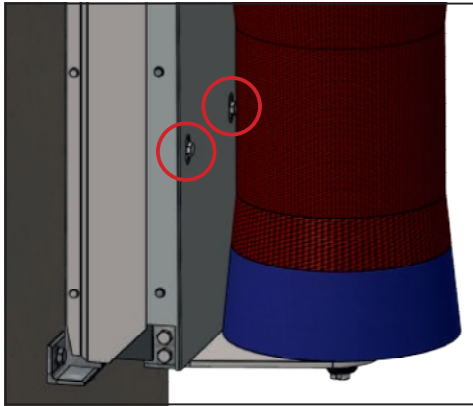

Figure 5: Removal of the transport safety screw
4. Remove the transport safety screws (2 x) and keep them for later use. (Fig. 5)